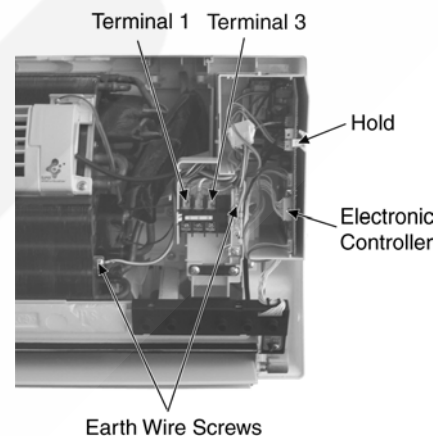

Fig. 3
- Release the 2 screws for the earth wire. (Fig. 3)
- Release the Terminal 1 (BLK) and Terminal 3 (BRW). (Fig. 3)
- Release the hooks that hold the Electronic Controller and pull out the Electronic Controller. (Fig. 3)